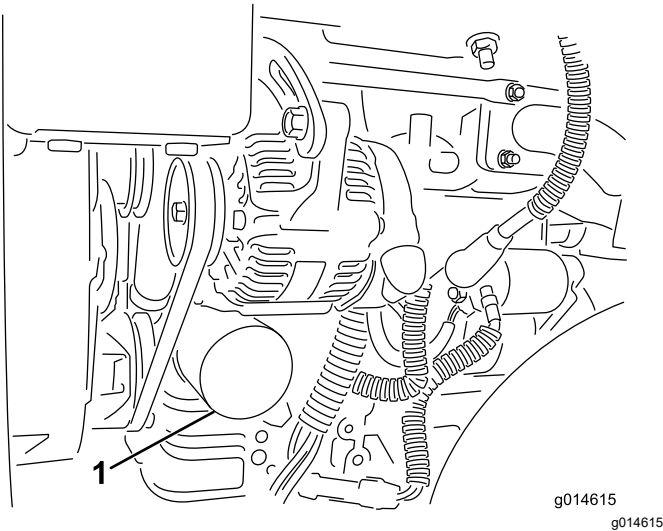

Figure 30
2. Remove the oil filter (Figure 30). Apply a light coat of clean oil to the new filter gasket.